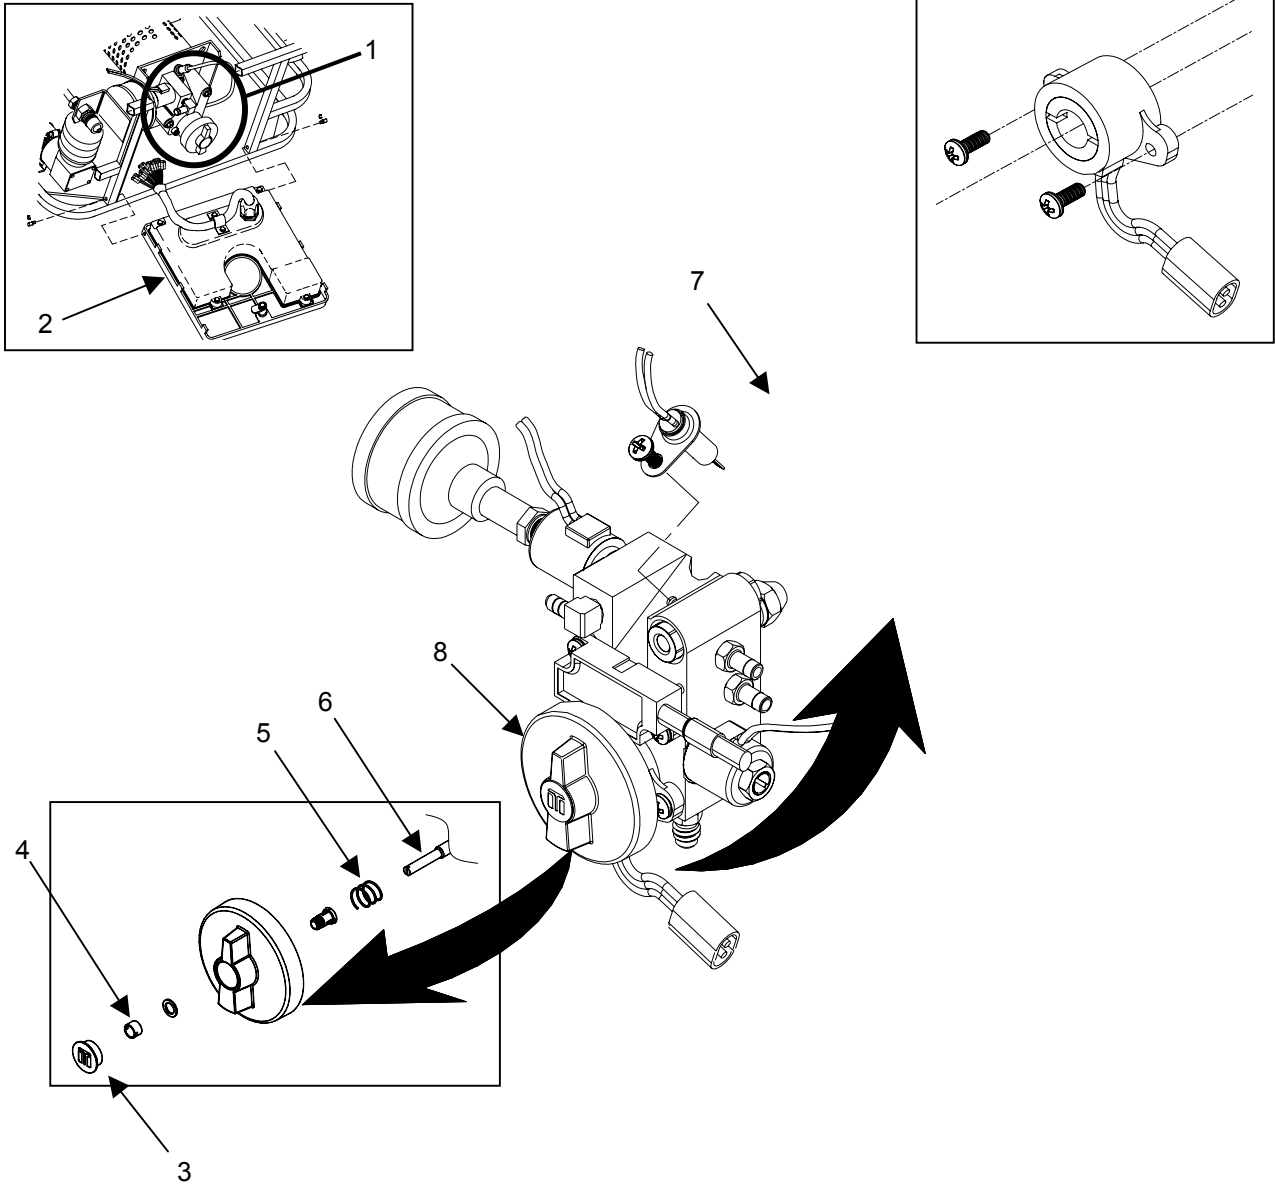

Figure 7. Adjust the Flame Control on MBU
2. Turn burner control knob (**figure 7, item 1**) counter-clockwise until it stops.
3. Lower the control panel (**figure 7, item 2**) by loosening the retaining screw with a cross-tipped screwdriver.
4. Removing the end cap (**figure 7, item 3**) from the control knob (**figure 7, item 1**) by prying it off with a small, flat-tipped screwdriver.
5. Loosen the control knob retaining-nut (**figure 7, item 4**) located in the center of the control knob (**figure 7, item 1**) with a 5/16-inch nut-driver only enough to remove the control knob and spring (**figure 7, item 5**).
6. Place the tip of the small, flat-tipped screwdriver into one of the slots on the potentiometer (**figure 7, item 6**) and turn it counter-clockwise until it stops. One of the slots will stop at about the 10 o'clock position. Turn this slot clock-wise back to the 12 o'clock position.
7. Start the burner but do not close the control panel. If burner will not start: Turn the flame control shaft (**figure 7, item 6**) one turn counter-clockwise with a small, flat tipped screwdriver. Reattempt to start the burner. If the burner will not start, see troubleshooting procedures (burner will not start).
8. On the back of the control knob, there are two tabs that fit into the slots on the potentiometer (**figure 7, item 7**). They will line up with the potentiometer slots when the control knob is pointing to the 9 o'clock position.
9. Install the spring (**figure 7, item 5**) on the control knob (**figure 7, item 8**) then press the control knob (**figure 7, item 1**) back onto the flame control shaft (**figure 7, item 6**).
10. Without tightening the retaining nut (**figure 7, item 4**), turn the control knob (**figure 7, item 1**) clockwise until it stops. Continue to hold the control knob in.
11. Use a small flat-tipped screwdriver to slowly turn the flame control shaft (**figure 7, item 6**) clockwise until the flame gets small and turns completely blue. It may sputter or go out momentarily and make a rumbling sound.
12. Turn the flame control shaft (**figure 7, item 6**) counter-clockwise until the flame becomes stable and has some yellow. It should make a steady sound.
13. Tighten the control knob retaining nut (**figure 7, item 4**) with a 5/16-inch nutdriver.
14. Turn the burner control knob (**figure 7, item 1**) counter-clockwise (high), then back to clockwise (low). There should be a noticeable difference between low and high. Let the burner run for a few minutes to be sure that it is stable and will not go out. Adjust flame control shaft as necessary to achieve a good flame throughout the range. The high flame does not need adjustment.
15. Replace the control knob cap (**figure 7, item 3**) then close and secure the control panel door (**figure 7, item 2**) by tightening the retaining screw.